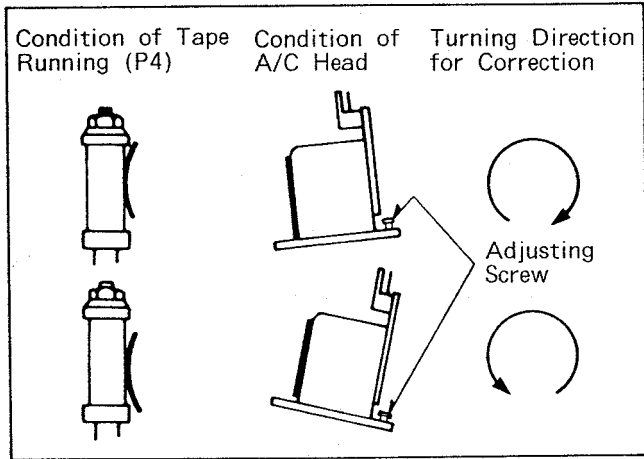

Fig. M8
1. Play back the beginning portion of NV-E240 blank cassette tape and confirm that the tape runs between lower and upper limiters of the P4 post. If there is waviness or frilling in the lower edge or top edge of the tape, correct the tilt of the A/C head by turning the screw located behind the A/C head. (Fig. M8)